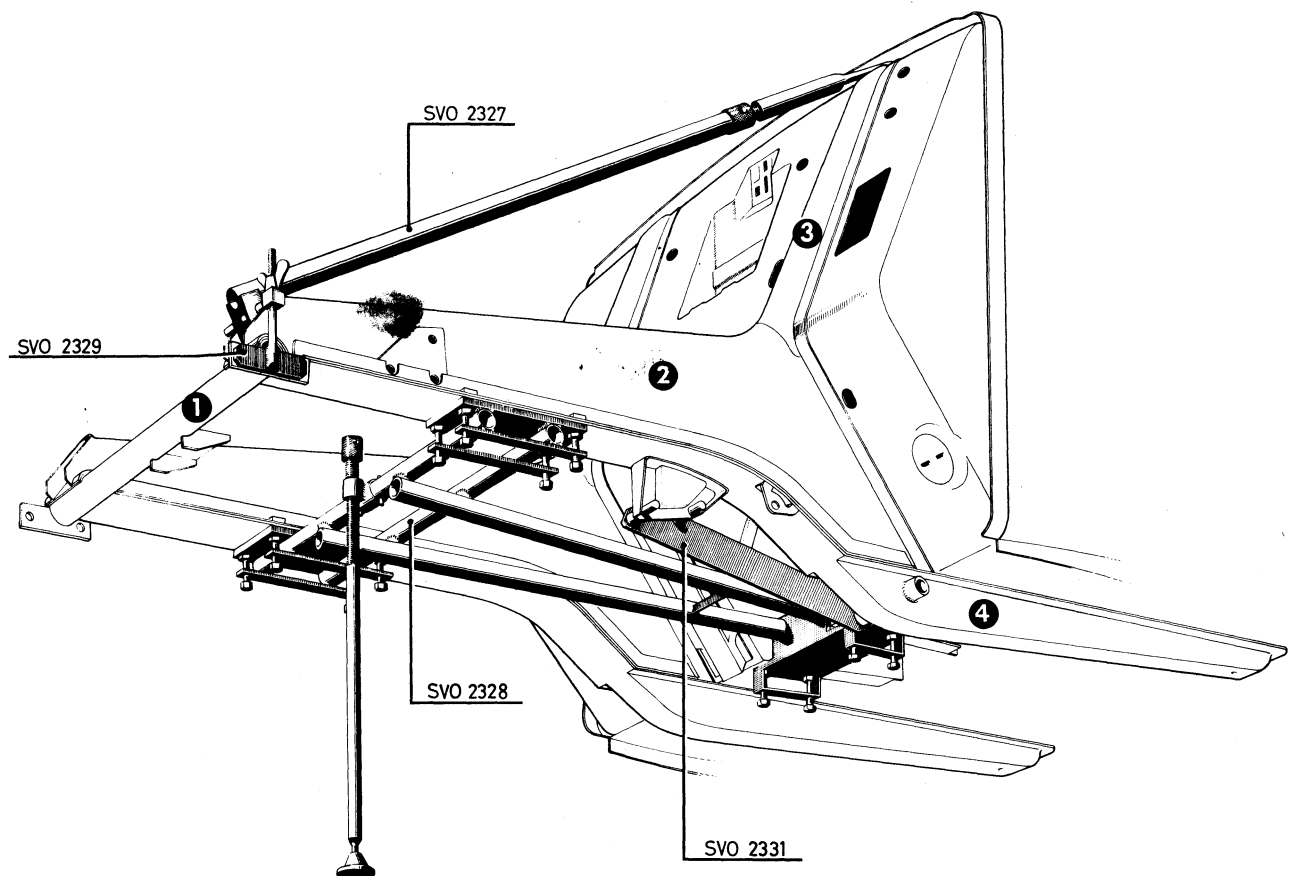

Fig. 1.
1. Attach fixture SVO 2328 to the gear box suspension and the undamaged side member. Then secure the new side member in the fixture. Use ratchet handle and 14 mm (0.55") sleeve. See fig. 1.
5. Adjust the side member to the tubular member with fixture SVC 2329 ( see Fig. 1.) Then weld these together ( electrodes TP 2.5 mm = 0.10" ).
1. Place fixture SVC 2328 on the gearbox suspension and fit a new side member in the fixture. Use a ratchet handle and 14 mm ( 0.55" ) sleeve. See Fig. 1.
7. Adjust the side member to the tubular member with fixture SVC 2329, see Fig.1, and weld these together (electrodes TP 2.5 mm = 0.10").
1. Attach fixture SVC 2323 at the gearbox suspension, then place the new side members in the fixture. Use ratchet handle and 14 mm (0.55") sleeve. See Fig. 1.
2. Attach fixture SVO 2331 at the hole for the pedal position - extension member on left-hand side. Then fit fixture SVO 2327 to side member - bulkhead on both sides. See Fig. 1.